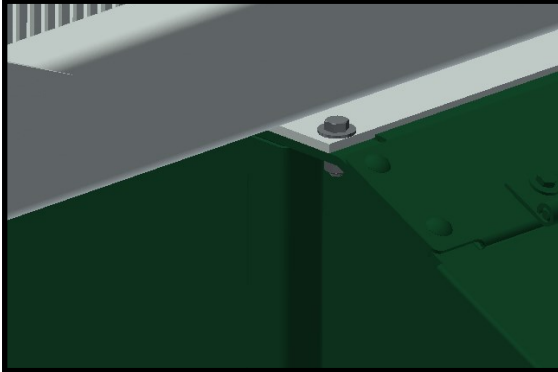

Figure 1
First lift the tank into position using the loops provided on the tank frame, this will help keep the tank near level while working it into position. Align bolt holes and air-lift duct and lower into position and install bolts into support arms. Make sure tank is sitting flat on combine top and square with sides and frame before disconnecting lift front tank. If tank does not sit flat on combine, adjust support arms to right or left as needed to allow tank to sit flat on frame. Secure tank to combine by tightening attachment bolts, 3/8 X 1-1/4 capscrews (8). Next connect hydraulic hoses between combine mainframe and tank using the hoses provided. See Figure 1.